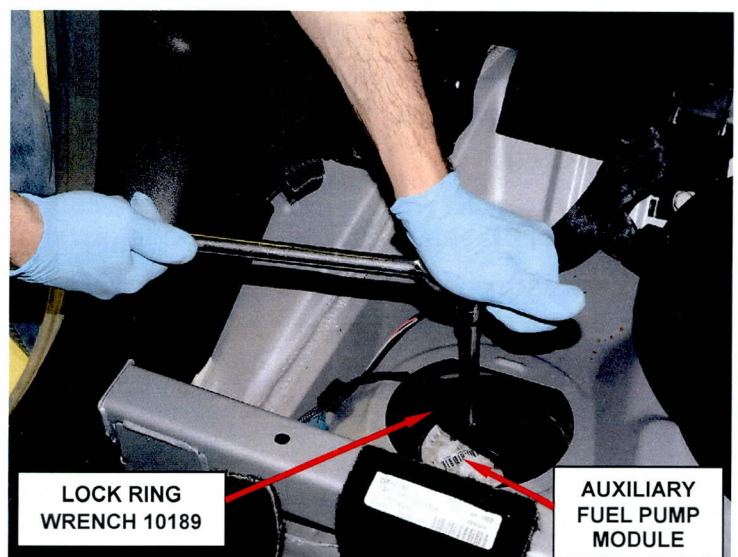

Figure 5 – Lock Ring Wrench 10189
- Using the fuel pump module Lock Ring Wrench 10189 or equivalent, remove and save the auxiliary fuel pump module lock ring (Figure 5).
15. Seat the auxiliary fuel pump module into the fuel tank, install the lock ring and secure the lock ring using Special Tool 10189 Lock Ring Wrench (Figure 5).